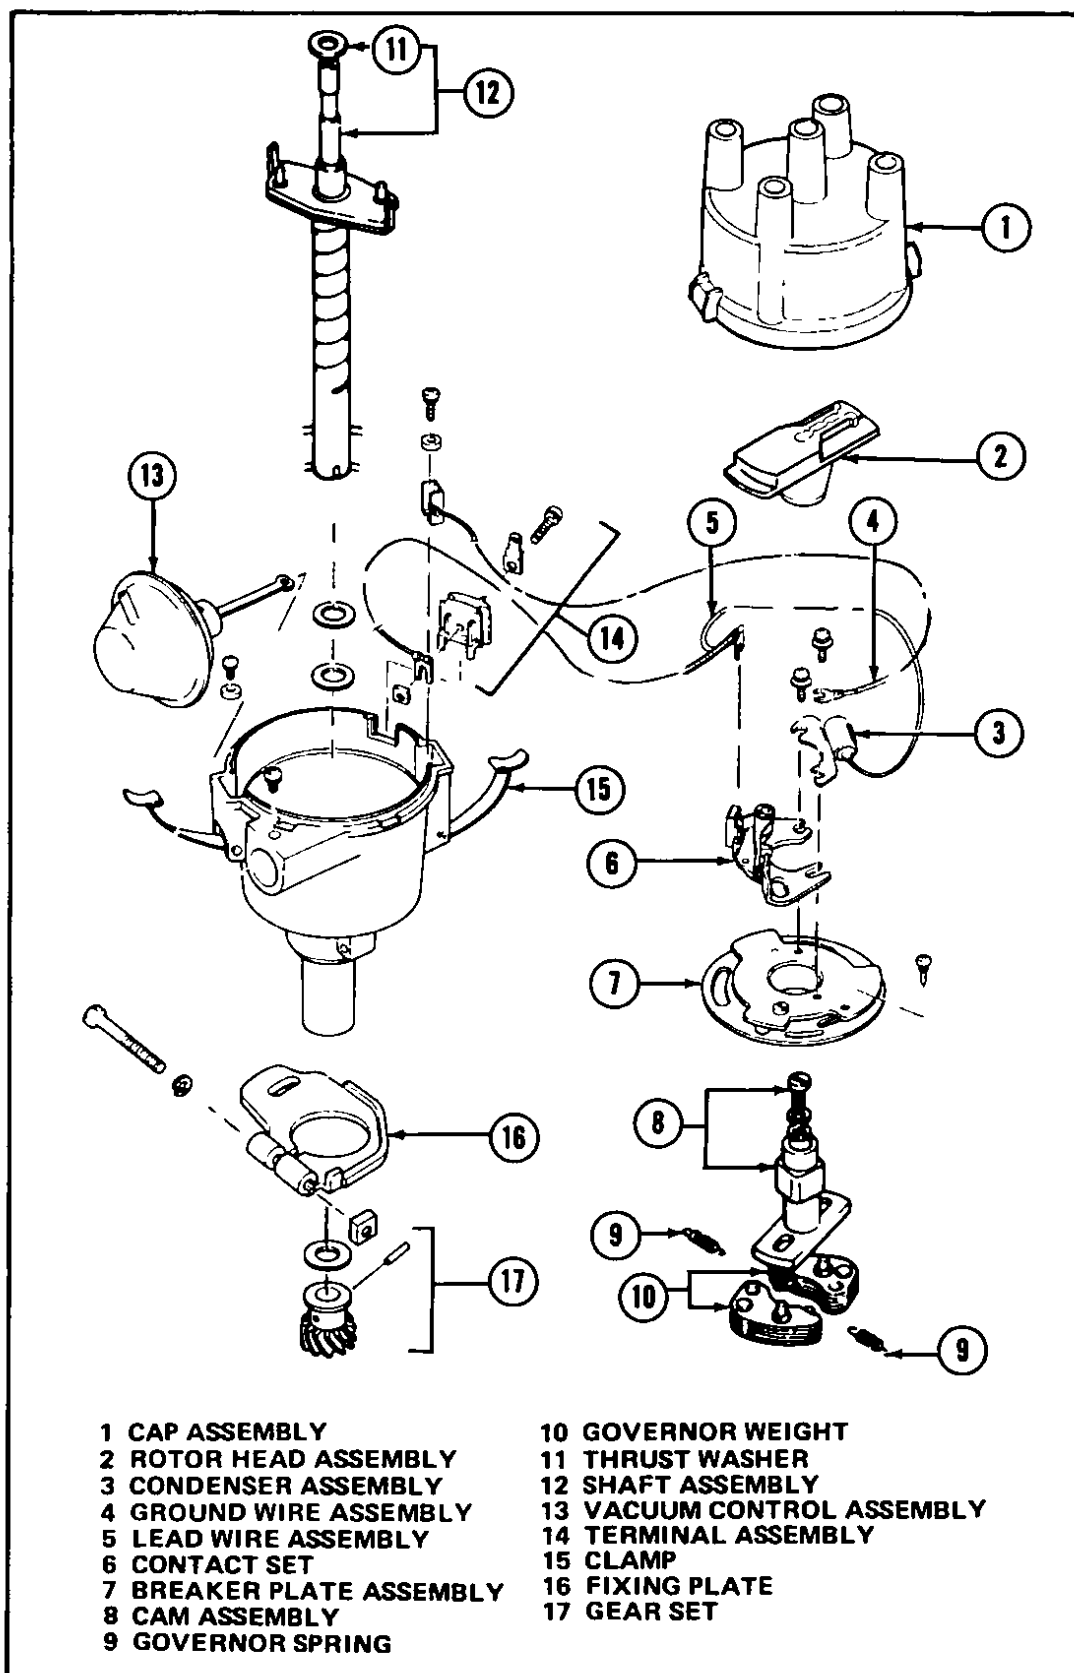

Fig 34 Typical breaker point distributor
- 8 Reinstall the distributor rotor and cap, Fig 34.